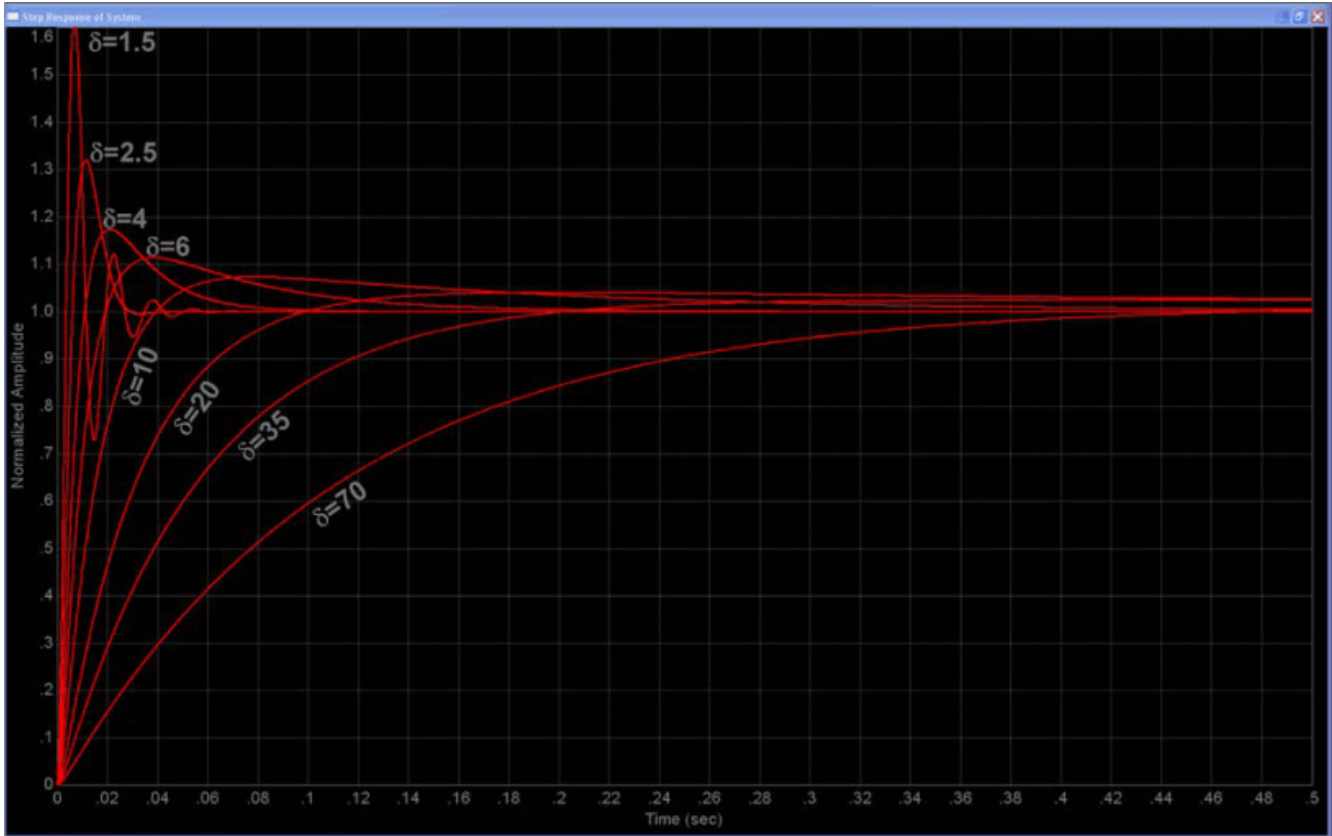

Figure 11-10. Step Response of Speed Controller as a Function of δ
The required frequency separation between the -3 dB cutoff point of the speed closed loop response and the current controller pole is clearly seen along the bottom of the graph for various values of the damping factor. As the damping factor approaches unity, the complex poles in the speed loop approach the required frequency sep dampened ringing. This is perhaps better visualized in Figure 11-10, which shows the normalized step response of the system for various values of the damping factor. Values below 2 are usually unacceptable due to the large amount of overshoot. At the other end of the scale, values much above 30 usually unacceptable due to the large amount of overshoot. At the other end of the scale, values much above 30 usually don't work either because of the extremely long rise and settling times, as seen in the step response curves. In-between these values is usually your design target window.
- Using the shape of the curves in Figure 11-10, find the lowest value of damping factor that will produce a satisfactory response for your speed loop. We have found that it is OK to pick a damping factor with a little more overshoot than you prefer, since integrator clamping will remove most of it anyway. At this point, the scaling of the frequency and time axes is irrelevant.